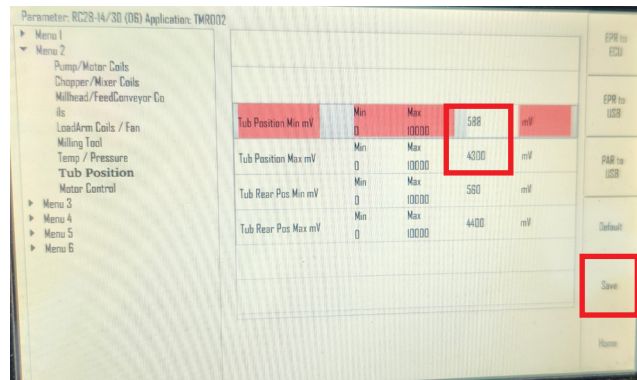

Figure 18: Input the 'IN_28' calibration values and save
20. Using the selector wheel, select 'Tub Position Min' and input calculated calibration value for 'IN_28' recorded in step 12 (e.g. 383); see Figure 18.
21. Using the selector wheel, select 'Tub Position Max' and input calculated calibration value for 'IN_28' recorded in step 15 (e.g. 2883); see Figure 18.